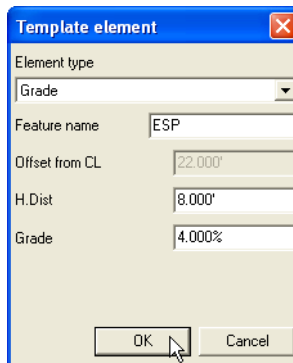

Figure 6-32. Edit Element Parameters and Update Template
3. On the *Template element* dialog box, edit the desired parameters and click **OK** (Figure 6-32). The fields differ depending on the element type selected.